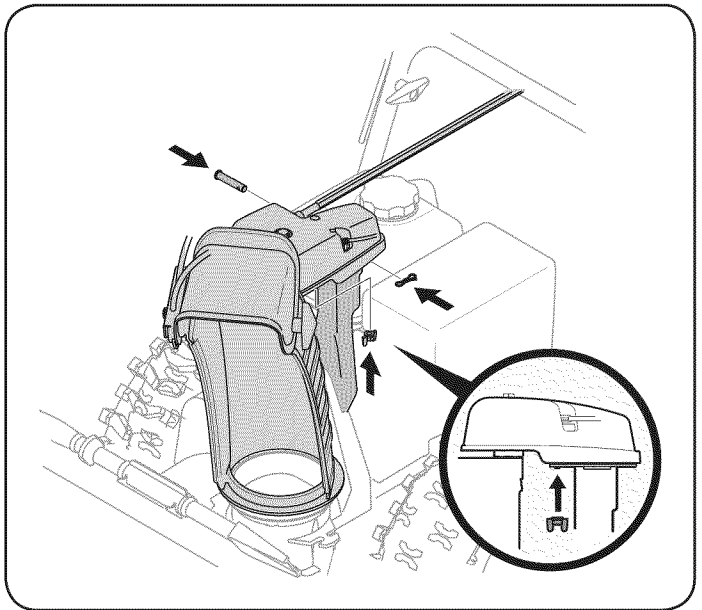

Figure 9
9. Finish securing chute control head to chute support bracket with wing nut, and clevis pin and bow-tie cotter pin removed earlier. See Figure 9.